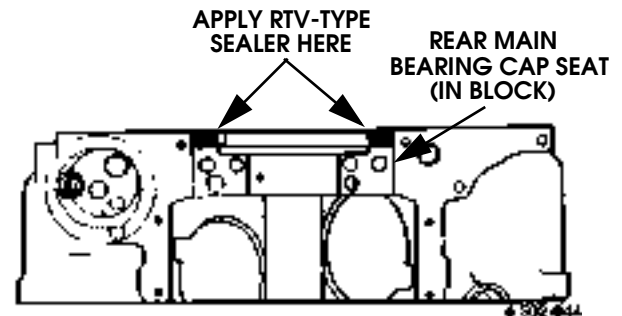

Figure 2-157: Sealer Application Points in Rear Main bearing Cap Seat
11. Apply Permatex High Temp silicone sealer to rear main bearing cap seat in block (Figure 2-157).